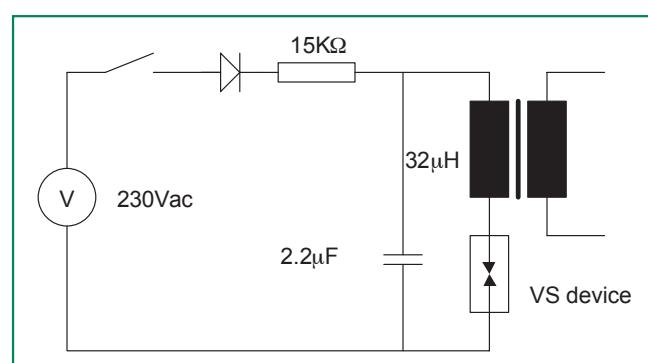

Fig 2. Recommended Life Test Circuit
(2) Measured @ 300 Volts DC
(3) Current required for transition to on-state
(4) Measured @ 1 MHz, zero Volt bias
(5) Using 8/20μs double exponential pulse
(6) Measured on recommended test circuit (fig 2.)